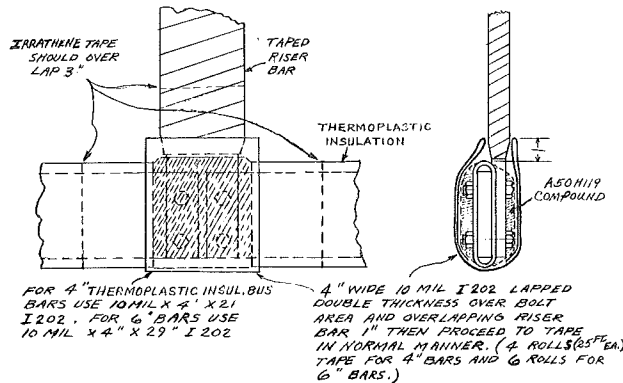

FIG. 25 (104A2714) 13.8 KV TAPED JOINTS
- (1) Prepare all joints as outlined under "CONNECTIONS".
- (2) Fill all cavities around bolts and nuts with A50H119 compound to form a smooth surface for taping, thus preventing air voids. This compound is not an insulating medium and should not be used for that purpose.
- (3) "T" Joint - Place 4" wide double thick Irrathene tape over the A50H119 compound as shown in Fig. 25. (This is not required for 4.16 joints).